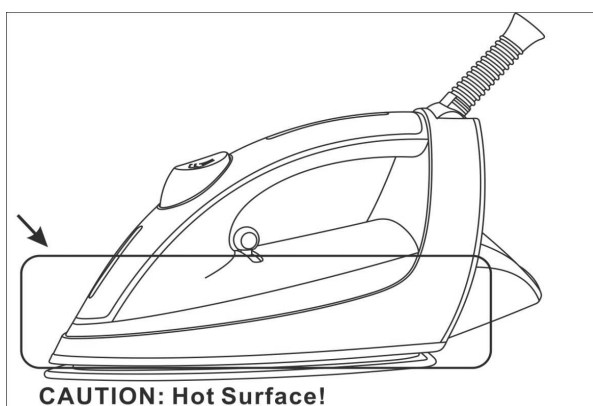

Figure 1: Left Side: hot surface
13. Do not touch the surfaces marked with symbol  during or just after ironing. They are hot! (Please refer to the Figure 1 and Figure 2 below)